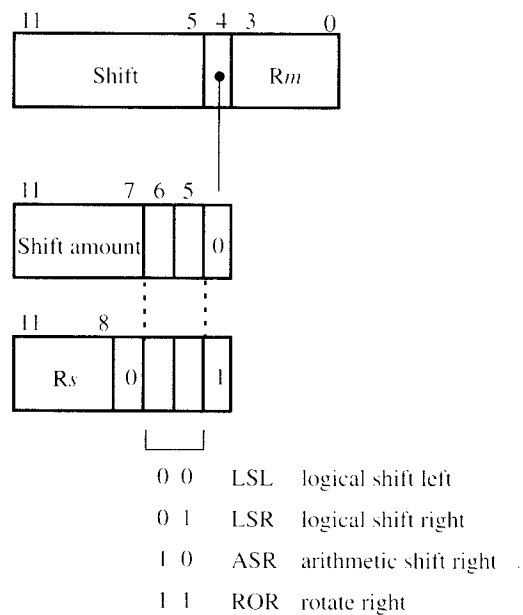

Figure B.3 ARM shift operations on operand 2 (Figure B.2) or address offset (Figure B.5) contained in register Rm .
- If Operand 2 is contained in a register ($I = 0$), it can be shifted before being used, as shown in Figure B.3. The shift is specified in bits b_{11-4} . If $b_4 = 0$, a shift amount in the range 0 through 31 is given by the 5-bit unsigned number in bits b_{11-7} . The type of shift is specified in bits b_6 and b_5 . The condition code flag C is involved in the four shifts as shown in Figures 2.30 and 2.32. The rotate right operation (ROR) is done without the C bit when the shift amount is nonzero. However, when the shift amount is zero, the meaning is: rotate right one bit position including the C bit, as shown in Figure 2.32d. This operation can be indicated in the assembly language by using the mnemonic RRX (rotate right extended) with no shift amount specified. An example of the instruction syntax when the shift amount is specified directly in the instruction, as just described, is
which shifts the operand in R2 left 4 bit positions (thus multiplying it by 16) before adding it to the contents of R1. If $b_4 = 1$, the shift amount is specified in the low-order 5 bits of register Rn, as shown in Figure B.3. For example, the instruction
When the offset is contained in a register, it can be shifted before being added to or subtracted from the base register Rn . The shift can only be specified by the 5-bit immediate method shown in Figure B.3. For example, the instruction